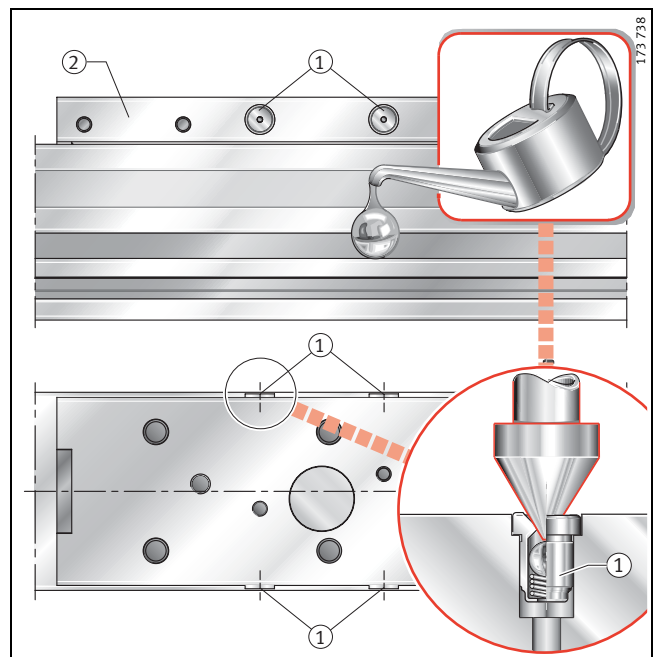

Figure 2 · Lubrication points – MLFI20-ZR
The support rail raceways are lubricated by an oil-soaked felt insert. Relubrication is carried out via two lubrication nipples ① on each longitudinal side of the carriage ② (Figure 2).